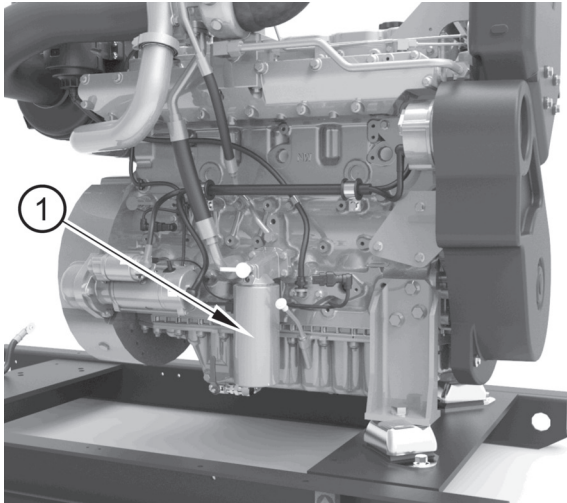
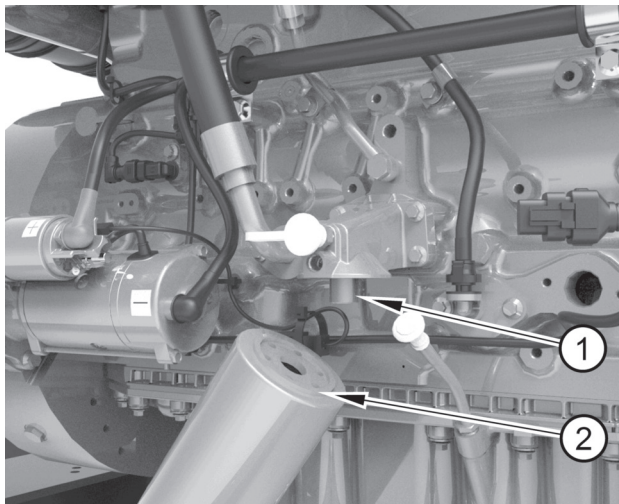

Figure 33
Figure 34
2. Remove the filter canister (figure 33 item 1) with a strap wrench or similar tool. Ensure that the adaptor (figure 34 item 1) is secure in the filter head. Then discard the canister.
4. Lubricate the top of the new canister seal (item 2) with clean engine lubricating oil.